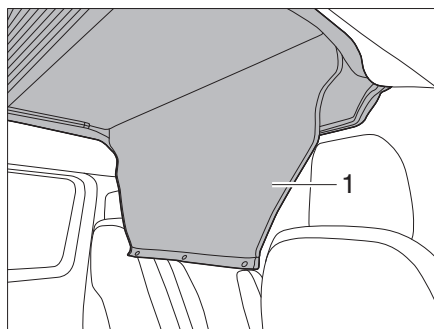

Fig. 11 Unrolling the entrance cover
- Unroll the entrance cover (Fig. 11,1).
- Close the entrance cover (Fig. 11,1) with snap fasteners.